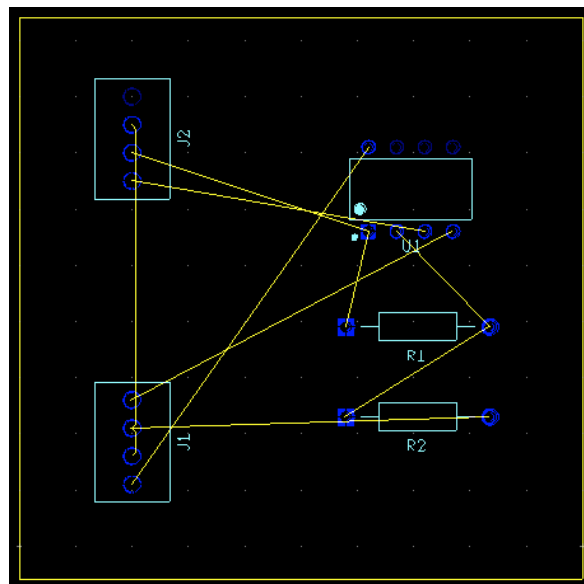

Figure 15. Parts placement.
3. Place the rest of the parts inside the Board Outline, use Figure 15 as guidance.